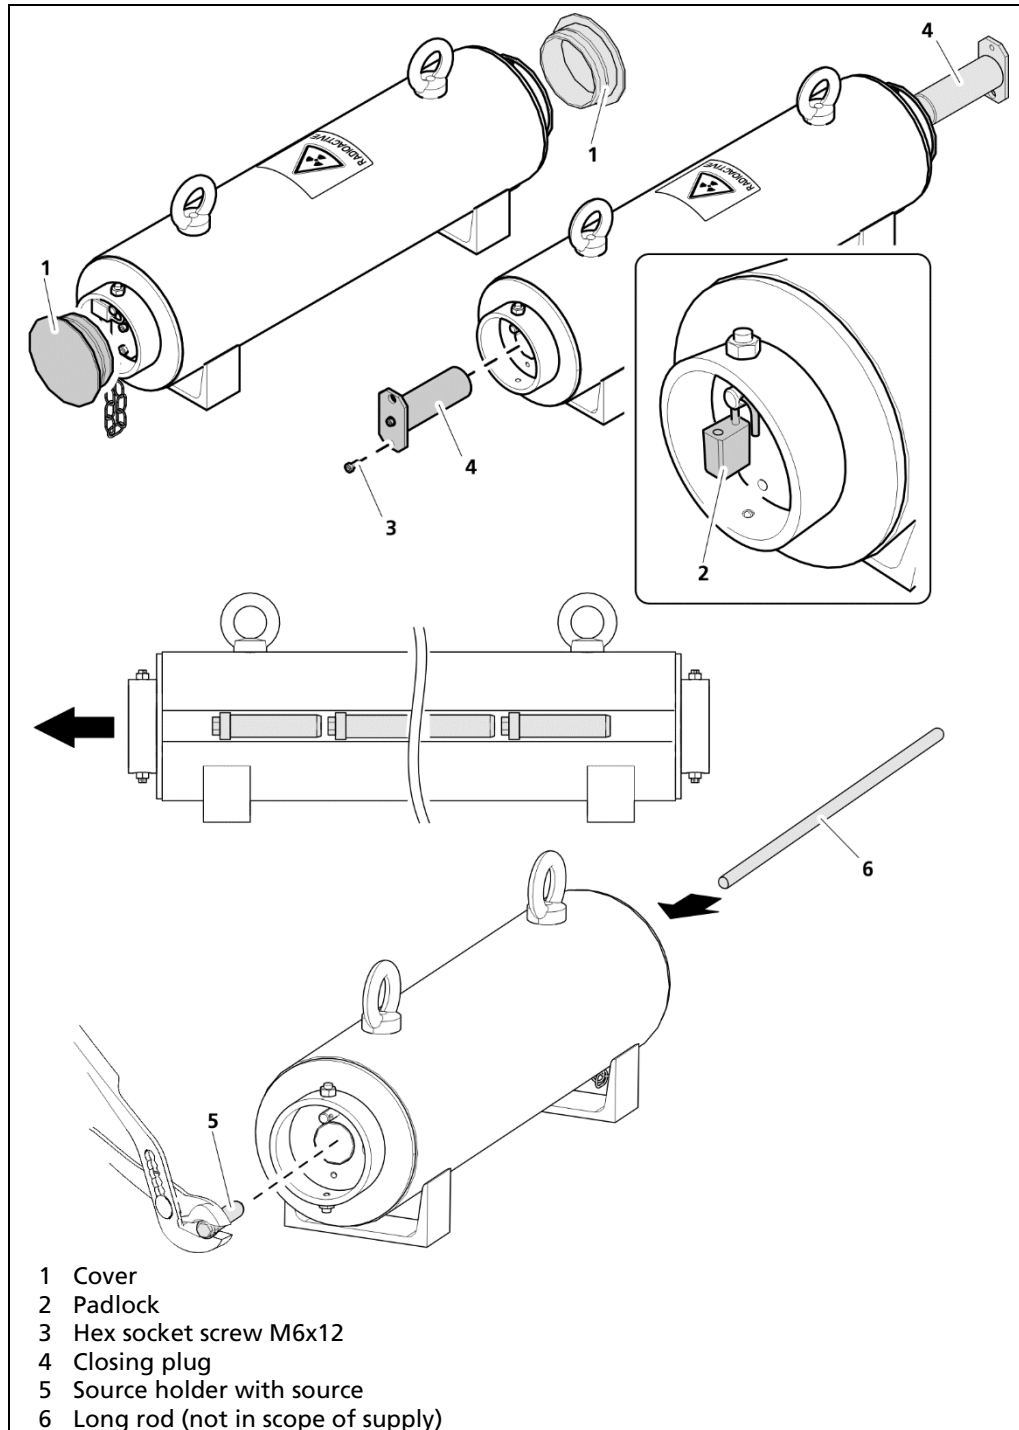

Fig. 9 Removing point sources from rod source shields
1. Remove the covers (Fig. 9, Item 1).
2. Remove the padlocks (Fig. 9, Item 2).
3. Loosen the hexagon socket screw (Fig. 9, Item 3) and remove the closing plugs (Fig. 9, Item 4).
5. If several sources are installed, insert a long rod (Fig. 9, Item 6) into the opening to push the sources out of the transport shield.